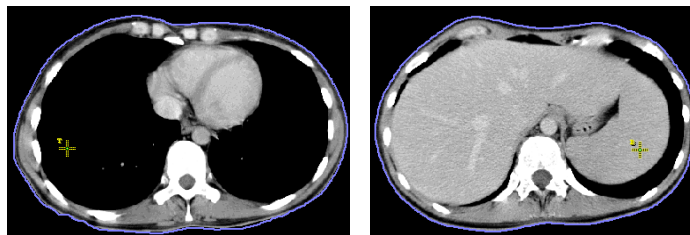

Figure 263 – Defining the top point and bottom point of the bolus
- The top point and the bottom point (the cursor is marked as **T** and **B** respectively) can be selected in any image in the current view. It is not necessary that these points are located on the contour line but simply in a view displaying the same image series (see Figure 263).